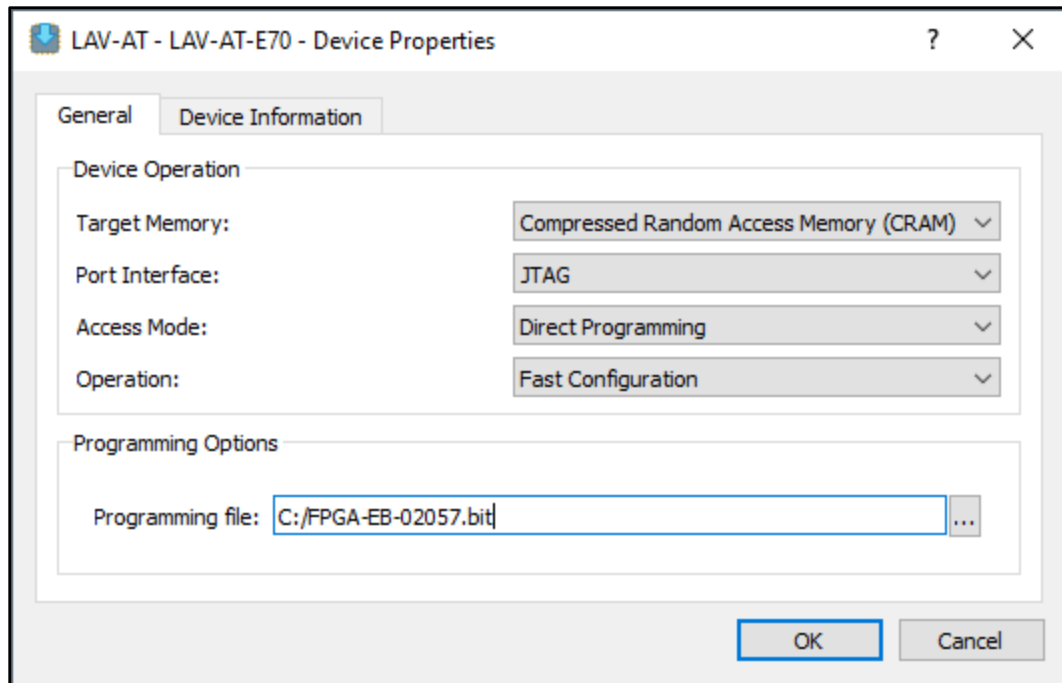

Figure 5.6. Radiant Programmer – Device Properties
5. The Device Properties dialog box opens as shown in Figure 5.6. Select the following options: